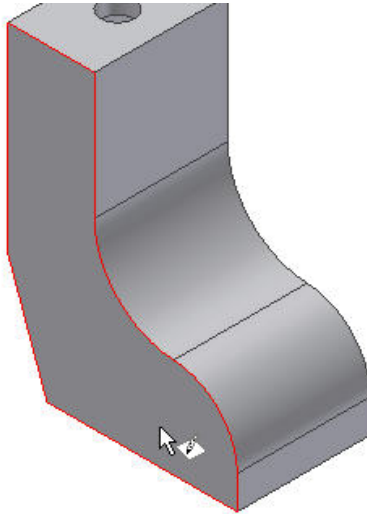

Figure 16
14. After the hole is created on the top of the part select the left surface, as shown in Figure 16, as the sketch plane for creating the second hole. We don't need to place a **Point,Hole Center** because the center point of the bottom right arc will be used as the center of the new hole.